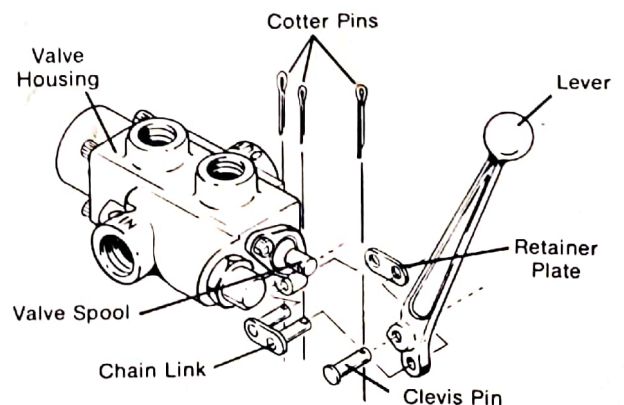

Figure 1A
**Step 1)** Assemble control valve hand lever to valve spool and valve body. Secure with cotter pins. (Fig. 1A & 1B)